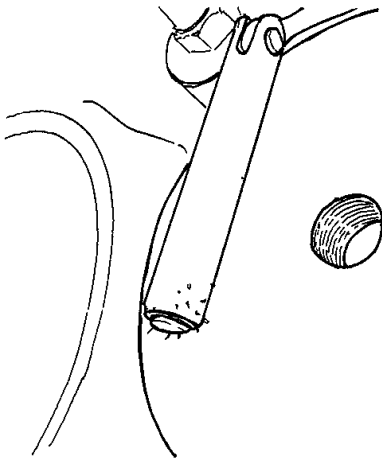

Figure 9 Clean hole With Magnet
8. Insert the magnet into the tapped hole to clean out any metal chips from inside the tapped hole (Figure 9).